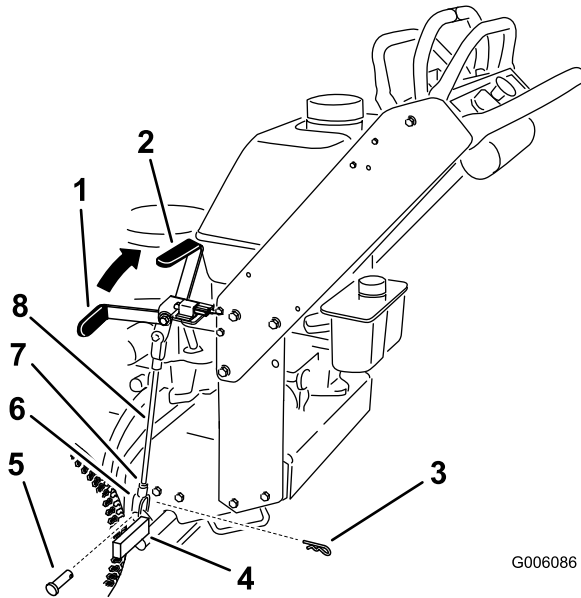

Figure 42
Note: When the brake is engaged, the brake handle should be in the 1 o'clock position (Figure 42).
5. Loosen the top and bottom jam nuts (Figure 42).
6. To adjust the brake, remove the hair pin cotter and clevis pin from the lower brake lever (Figure 42).
7. Rotate the brake rod in the yokes. To tighten the brake, lengthen the rod between the yokes. To loosen the brake, shorten the rod between the yokes (Figure 42).
8. Secure the yoke to lower brake lever with the hair pin cotter and clevis pin (Figure 42).
9. Tighten the top and bottom jam nuts (Figure 42).